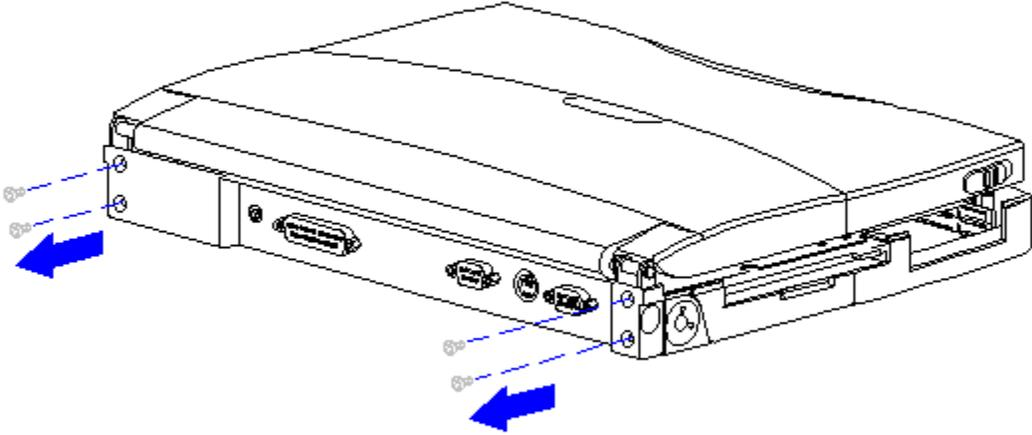

Figure 5-128. Removing the Rear Clutch Screws
- 9. Using a Torx T8 or slotted driver, remove the four clutch screws on the rear of the system unit module (Figure 5-128).